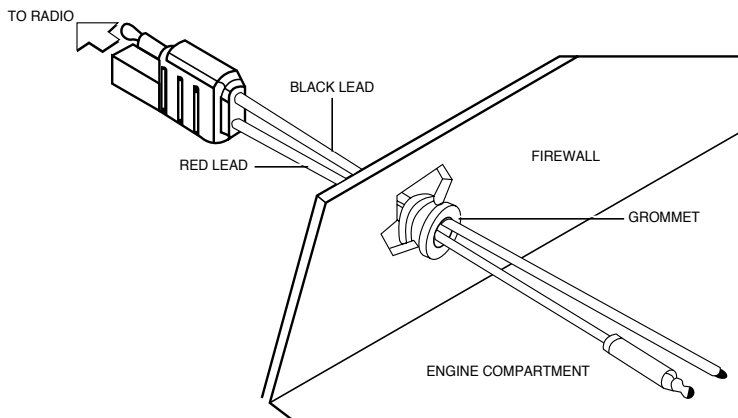

Figure 1. DC Power Cable Routing into Engine Compartment
- [3] From inside the vehicle, feed the red and black leads (without lugs attached) through the access hole and into the engine compartment. See Figure 1.